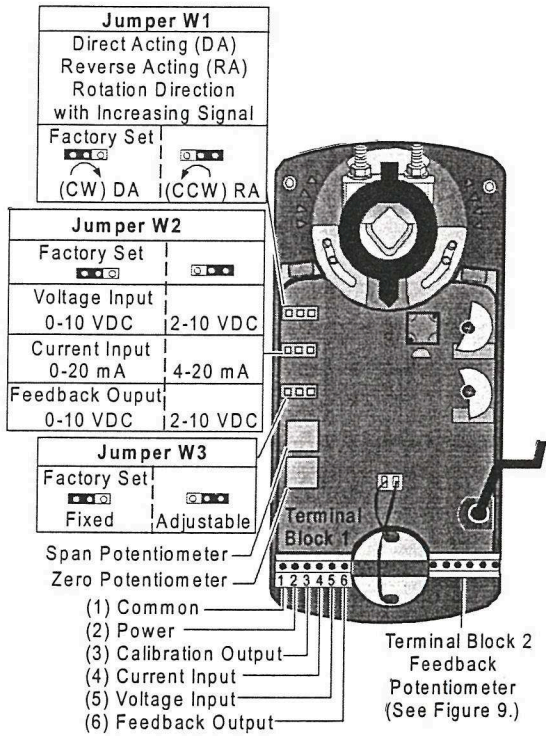

Figure 13: Calibrating M9216 Proportional Models
Proportional (HGA and HGC) models are factory set with Jumper W1 in the DA position, Jumper W2 in the 0 to 10 VDC or 0 to 20 mA position, and Jumper W3 in the fixed position. (See Figure 13.)
1. Verify that Jumper W2 is in the 0 to 10 VDC position, and place Jumper W3 in the adjustable (ADJ) position. (See Figure 13.)